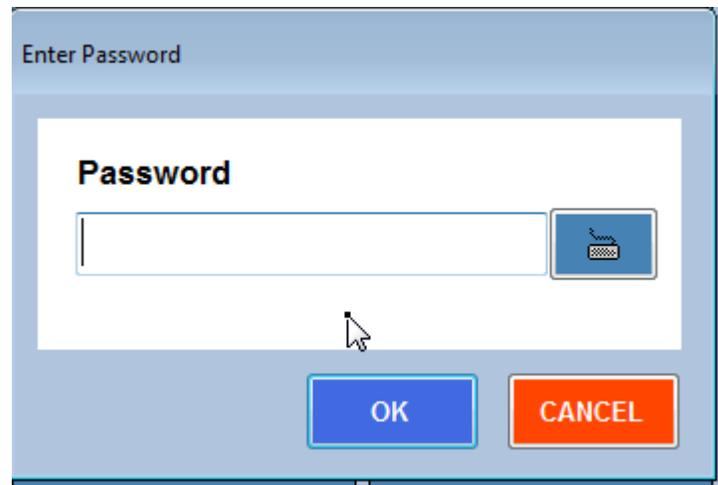

Figure 10-1 – Enter Menu Password (if required)
- Click the **Menu** button and enter the password (refer to Figure 10.1). The factory default password is 123, if was not modified by the Lab's Manager.